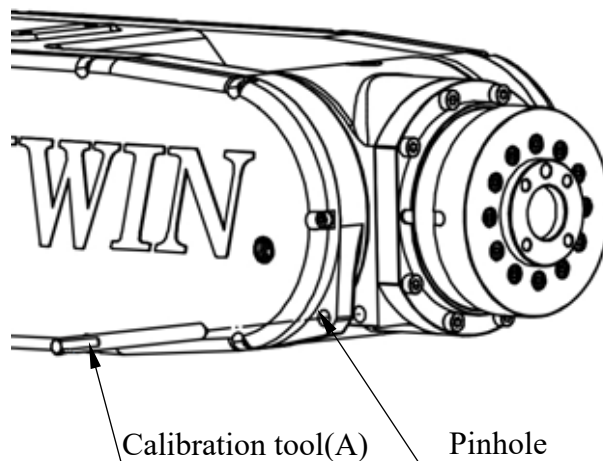

Figure 4-6 Illustration of J5-axis Zero- position setting
- J5-axis Zero-position setting (please refer to the Figure 4-6)
- Step2. Insert the calibration tool(A) to the pinhole to calibrate Zero-position.